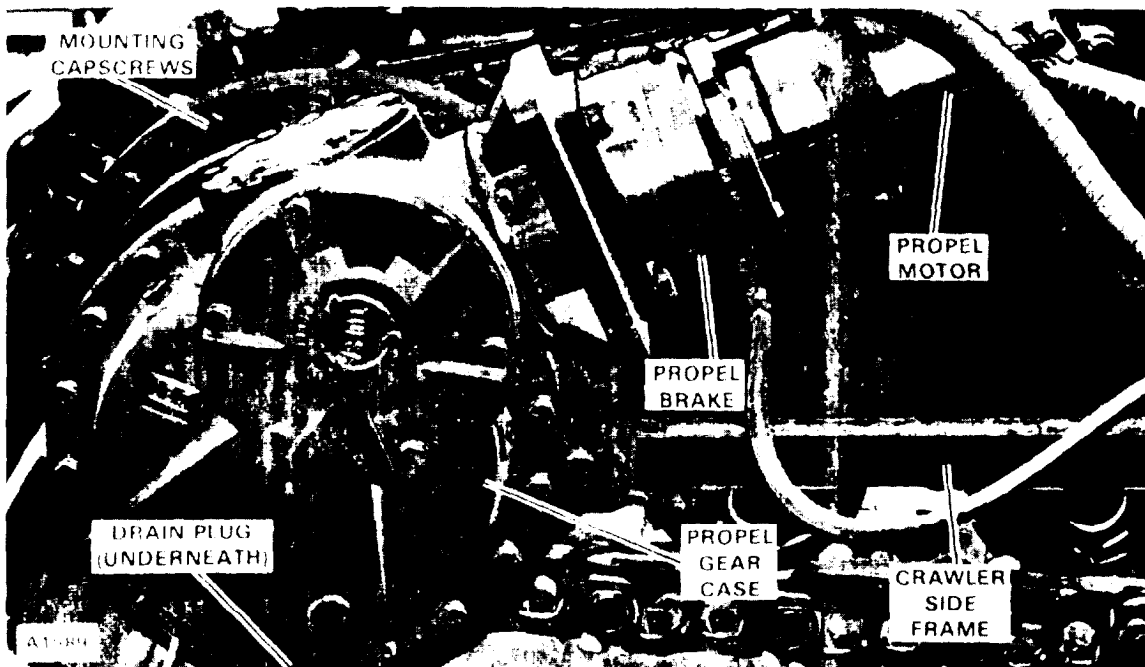

Figure 9D-1. Propeller Gear Case
A propel gear case is attached at the rear of each crawler frame (see Figure 9D-1). The gear case transmits propel motor rotation to the propel driveshaft. The gear case consists of an input section, center planetary section and output section.
To remove the propel gear case, proceed as follows (see Figure 9D-1):
**OUTPUT SECTION.** To disassemble the output section, proceed as follows (see Figure 9D-12):
1. Remove capscrews (02), holding cover (04) to the body of the drive.
2. Lift the cover assembly straight up from the unit, allowing the pilot of the cover to slide straight out of the counterbore in ring gear (13).
CENTER SECTION. To disassemble the center section, proceed as follows (see Figure 9D-12):